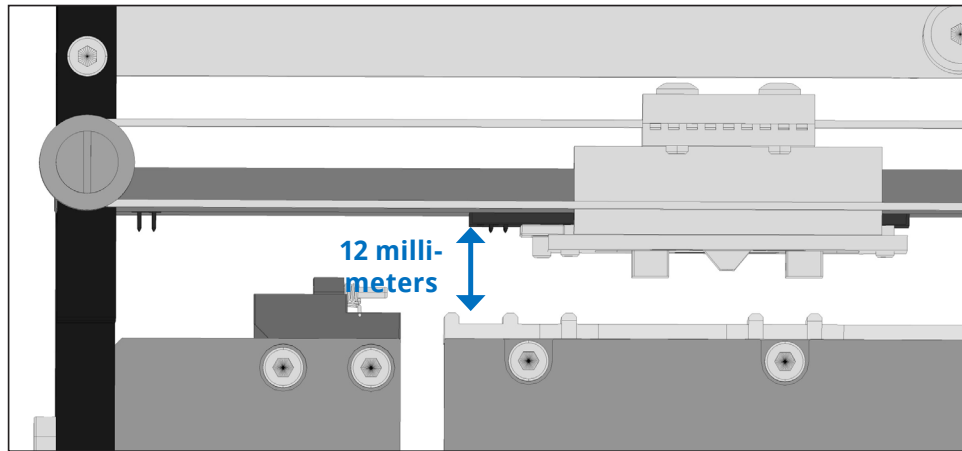
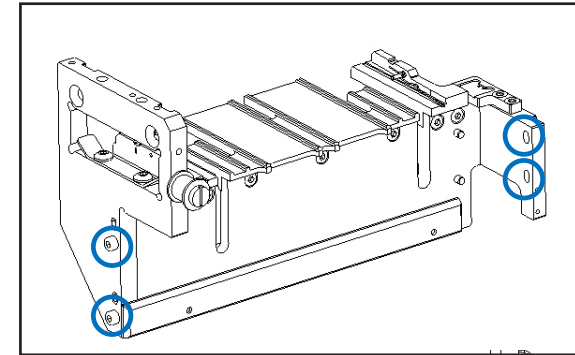

Figure 64: Partial cutaway of the photometer unit showing proper clearance between the photometer and the reading platform
Figure 65: The strip reading platform adjusting screws
3 Insert a clean and demagnetized 12-millimeter thick gauge block or equivalent measuring tool between the ribs on the reading platform and the lower (rectangular) PCB of the photometer (see Figure 64). The 12-millimeter gauge block should fit snugly between the platform ribs and the rectangular PCB. If the gap is too wide or too narrow, adjust the reading platform accordingly with the four (4) 2.5-millimeter hex socket screws that secure it to the unit housing plate (see Figure 65).